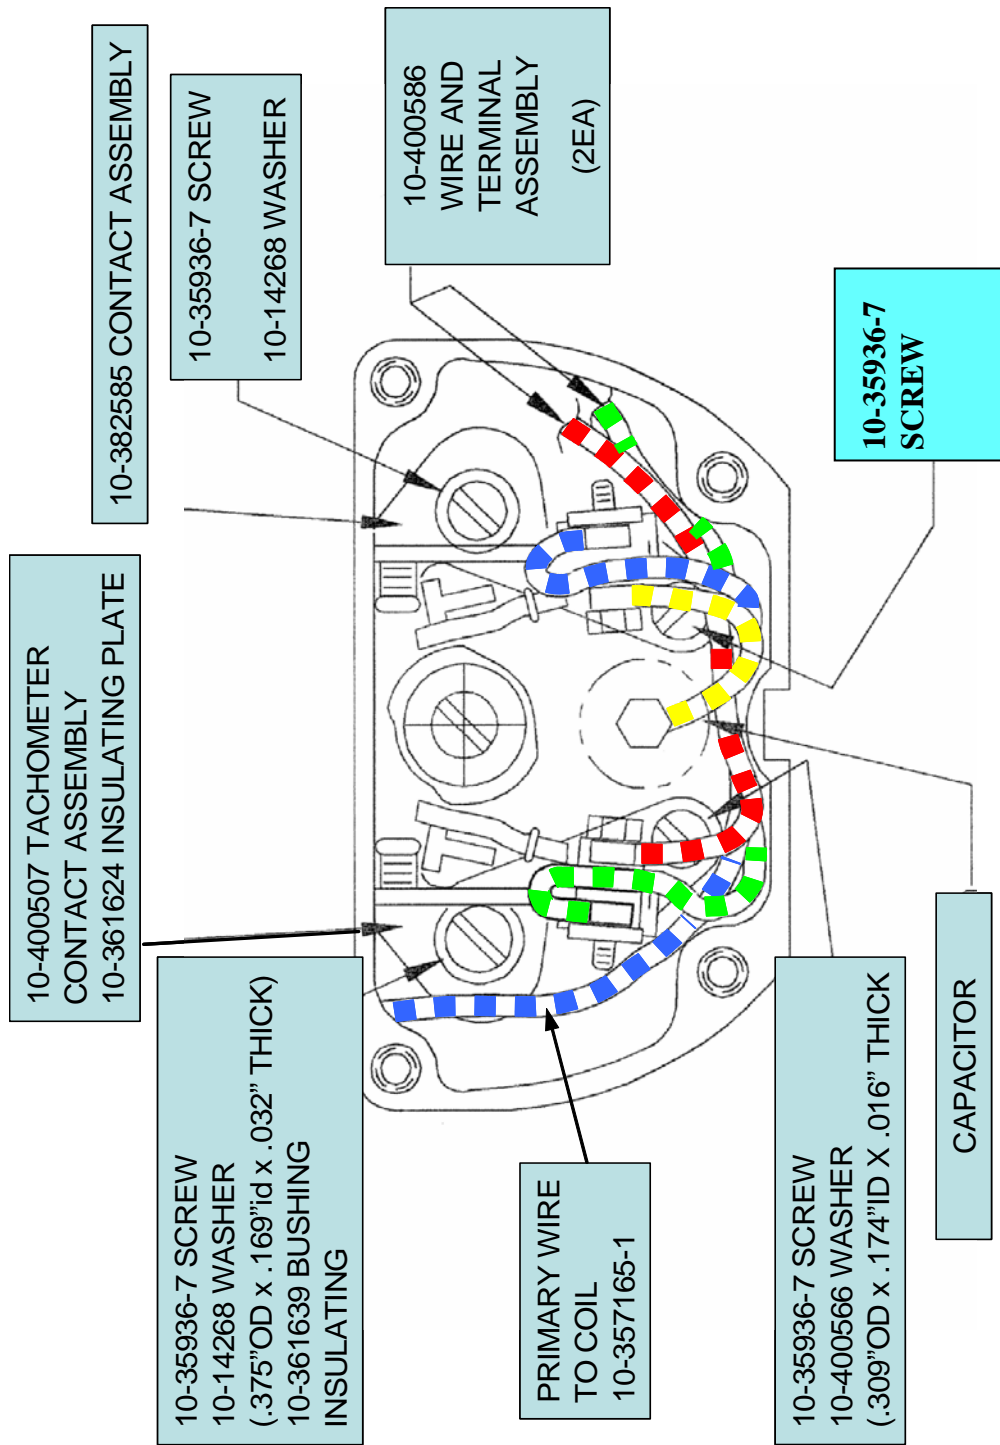

FIGURE 2
- Parts Assembly: Figure 2 depicts the correct current configuration of parts, assemblies and wiring in the magneto breaker compartment of the affected magnetos.
- Any bushing found to have parallel laminations as shown in Figure 2 must be replaced before further service.
- The breaker compartment features four wires that must be assembled properly to ensure continued reliable service: the coil primary wire, the two tachometer wires, and the capacitor wire. (See FIGURE 2.) Whenever access allows, inspect wires to ensure that they are free of cuts or chafing damage. Wires must be routed as shown in FIGURE 2 to ensure that they do not interfere with the rotating cam and associated parts during operation, and to ensure that no wire is pinched between the breaker cover and distributor housing at assembly. Any excess coil wire may be protected by bending it away from the cam. Coil and capacitor wires feature insulation that is relatively soft. Indentations on the insulation on these parts are normal and expected. Any exposed wire strands is cause for replacement. Replace damaged parts as necessary. The two tachometer wires use a short length of tubing as an assembly aid: the position of the tubing at
WIRE COLORS IN FIGURE 2 ARE FOR ILLUSTRATION OF ROUTING ONLY